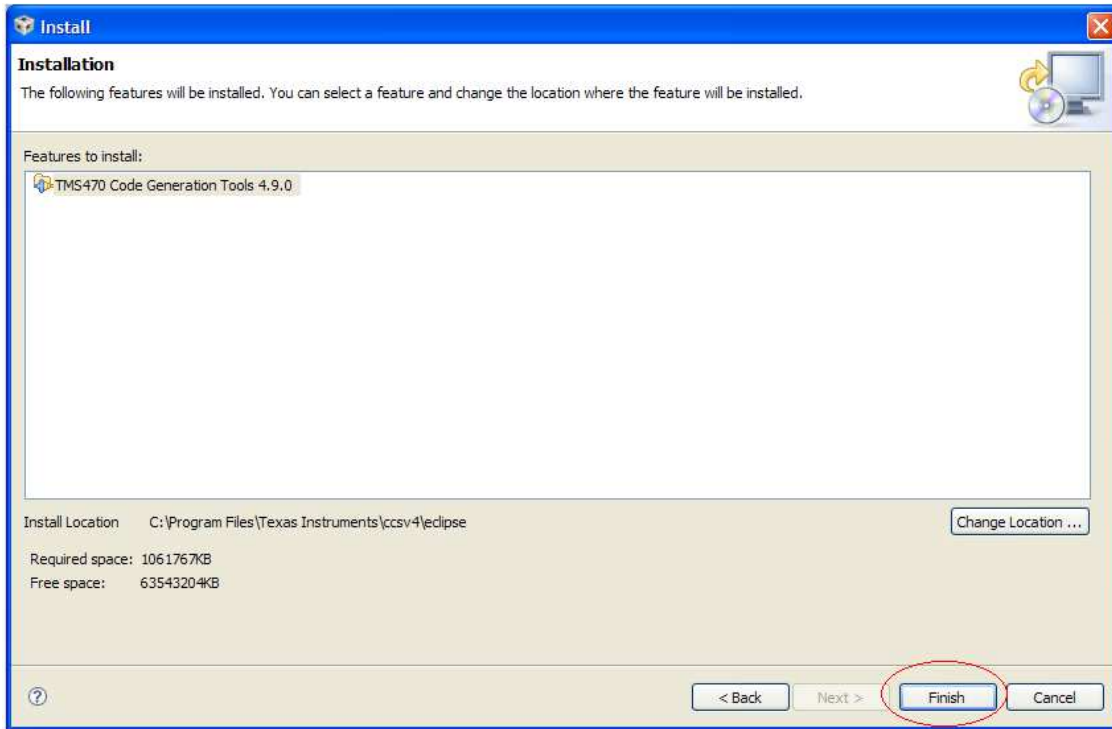

Figure 6. Install Window_Finish
- Click on the Finish button as shown in Figure 6.